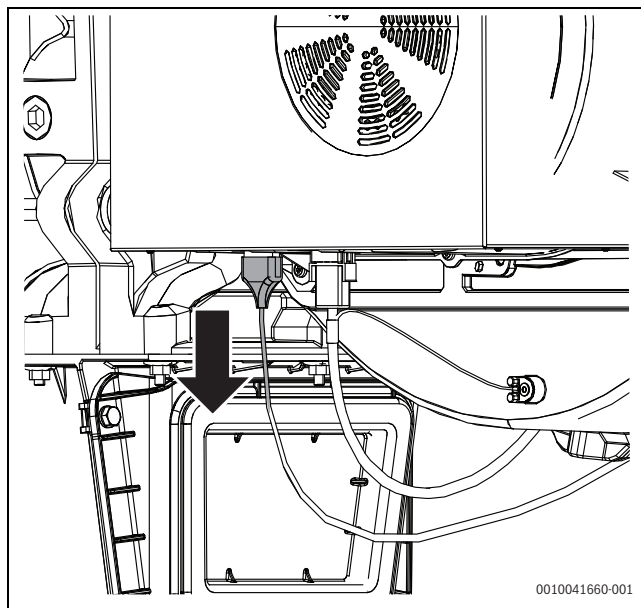

Fig. 8 Unplug the plug from the fan
- Unplug the plug on the fan (→Fig. 8).